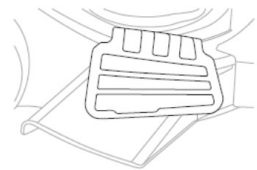

Fig.9C
5. Lower the side flap to make the flap lie on the side discharge channel. (Fig.9C)